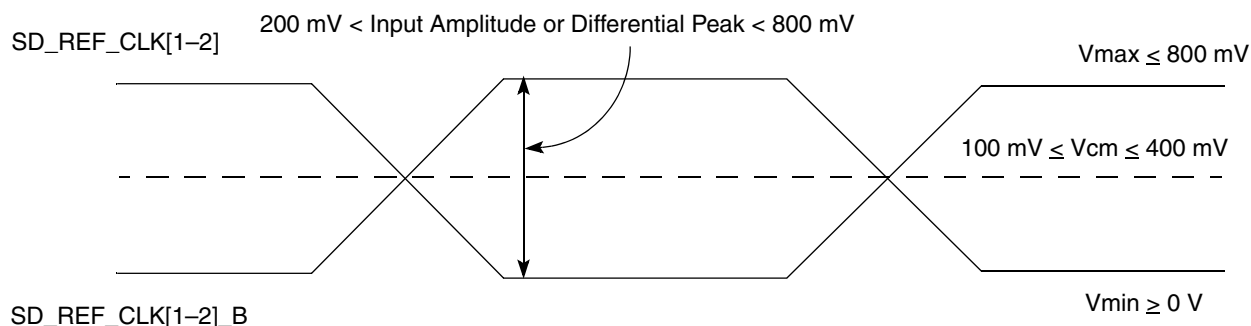

Figure 39. Differential Reference Clock Input DC Requirements (External DC-Coupled)
- For an external DC-coupled connection, the maximum average current requirements sets the requirement for average voltage (common mode voltage) as between 100 mV and 400 mV. Figure 39 shows the SerDes reference clock input requirement for DC-coupled connection scheme.